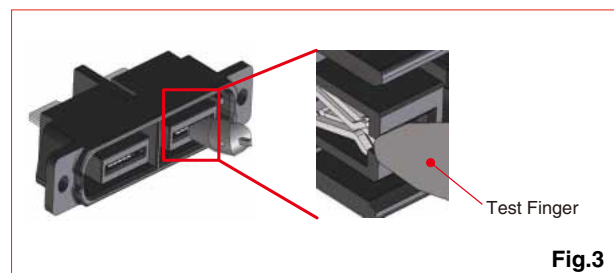

Fig.3
5. For added safety, the plug side (battery side) is designed to prevent shock hazard and provides for more user safety and security. (Fig.3)